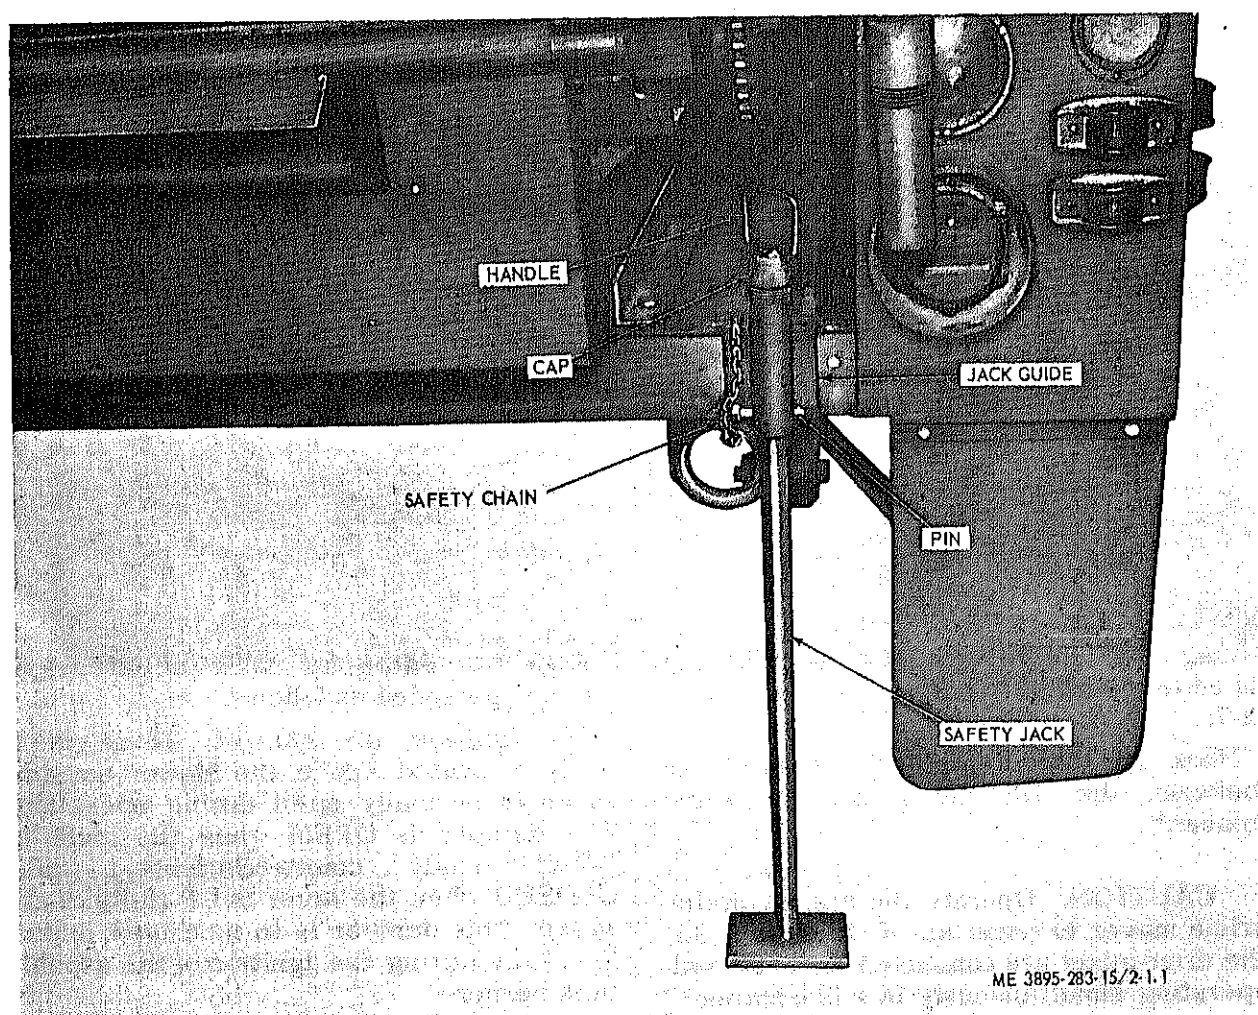

Figure 2-1.1. Safety jack in PARK position.
c. When parked there is a risk of the trailer tipping backward when personnel are standing on the unit. For this reason, the rear safety jack is provided and must be installed in the PARK position when the worksite is reached. Refer to figures 2-1.1 and 2-1.2 for illustrations showing the safety jack in the PARK and TRAVEL positions.